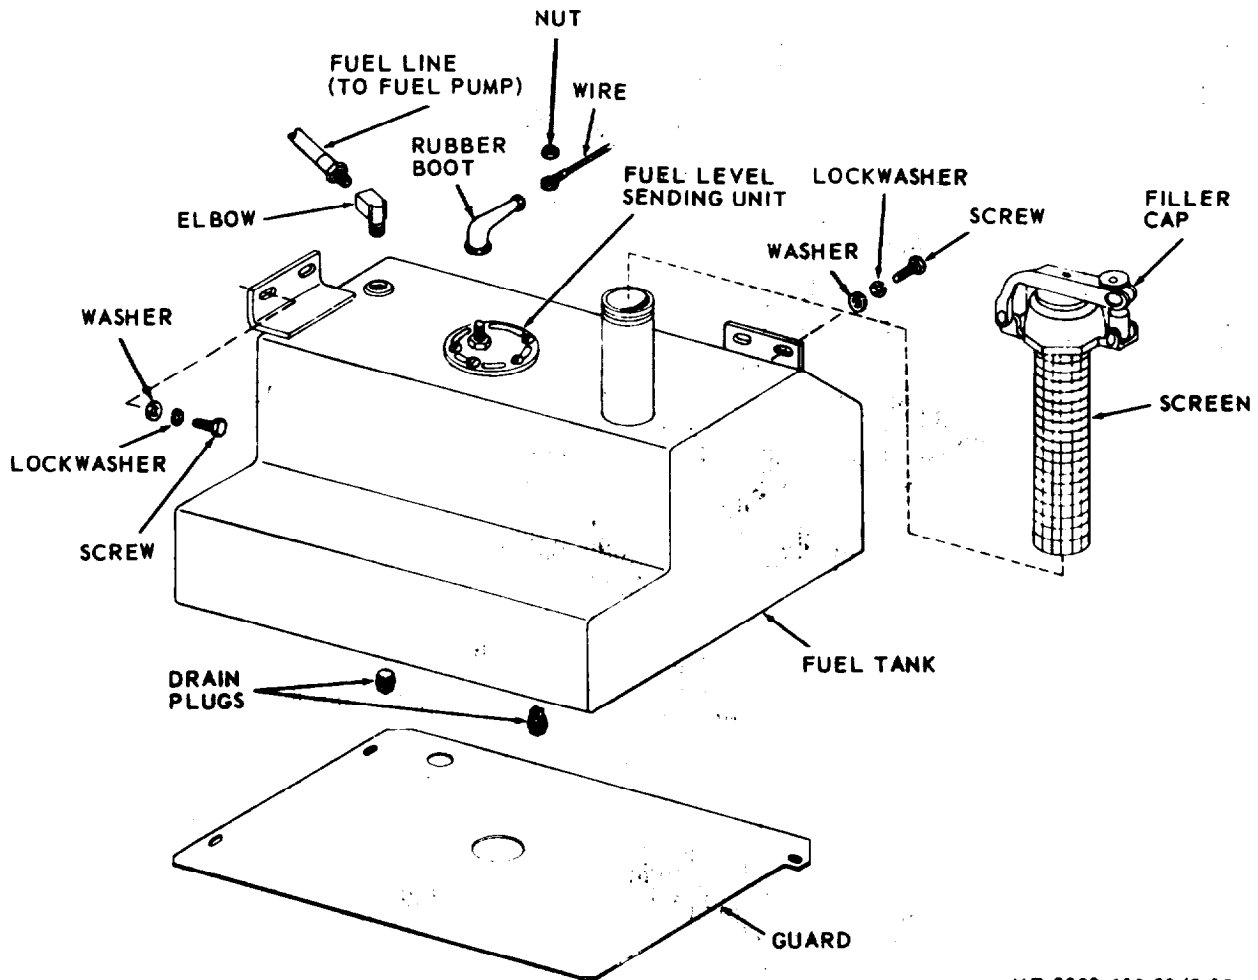

Figure 2-15. Fuel tank exploded view.
a. *Removal.* Refer to figure 2-15 and remove the fuel tank as follows :